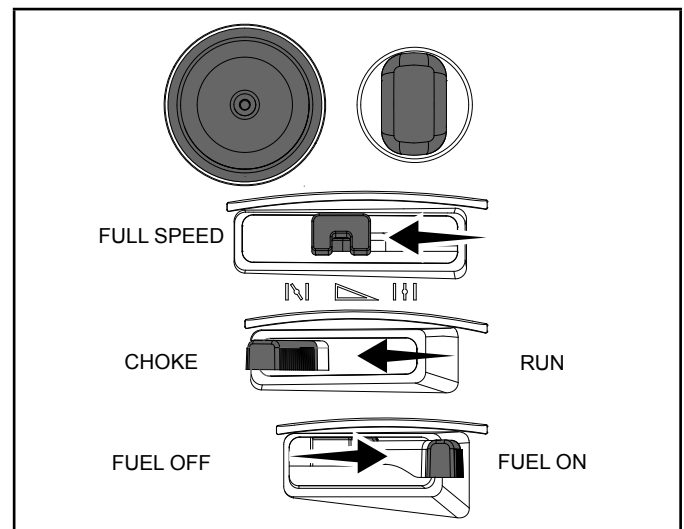

Figure 15
3. To start a cold engine: (Fig. 15).